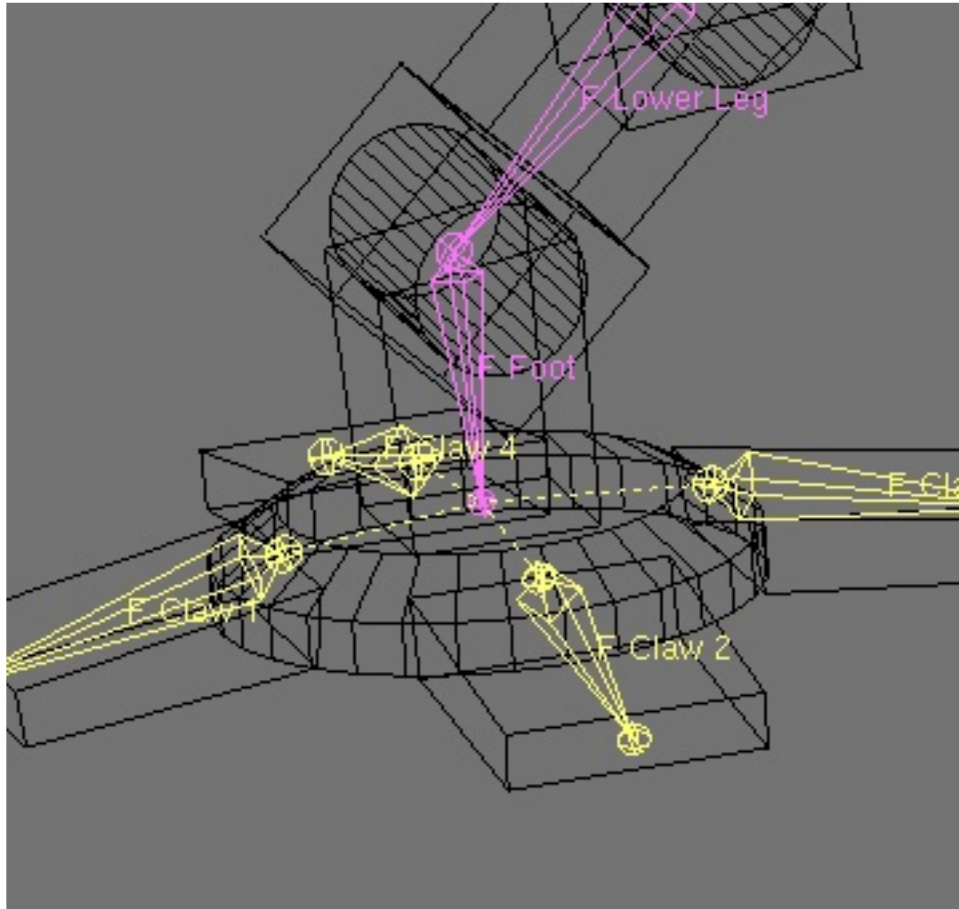

Fig 5. The four claw bones added to the mesh. Parent these to the Foot Bone.
14. Use the same snap method with the cursor to accurately place four claw bones on the four claws. Parent all four bones to the R Foot bone. You are adding all these bones to the same armature. Make sure you add bones to the same armature. So always go into edit mode of the armature before you add more bones. See Figure 5.